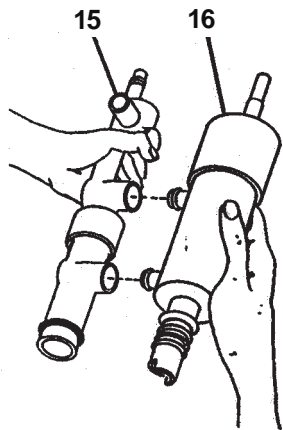

Figure 8. Pump Disassembly Step Two
(See Fig. 8)
- D. Holding valve retainer firmly in place with thumb and forefingers, join mix transfer tube (15) to pump cylinder (16) as shown. (See Fig. 8)
- E. Place top lock plate (13) and clamp rod (14) over end of pump cylinder and mix transfer tube. Secure with two hand nuts (12) and finger tighten.